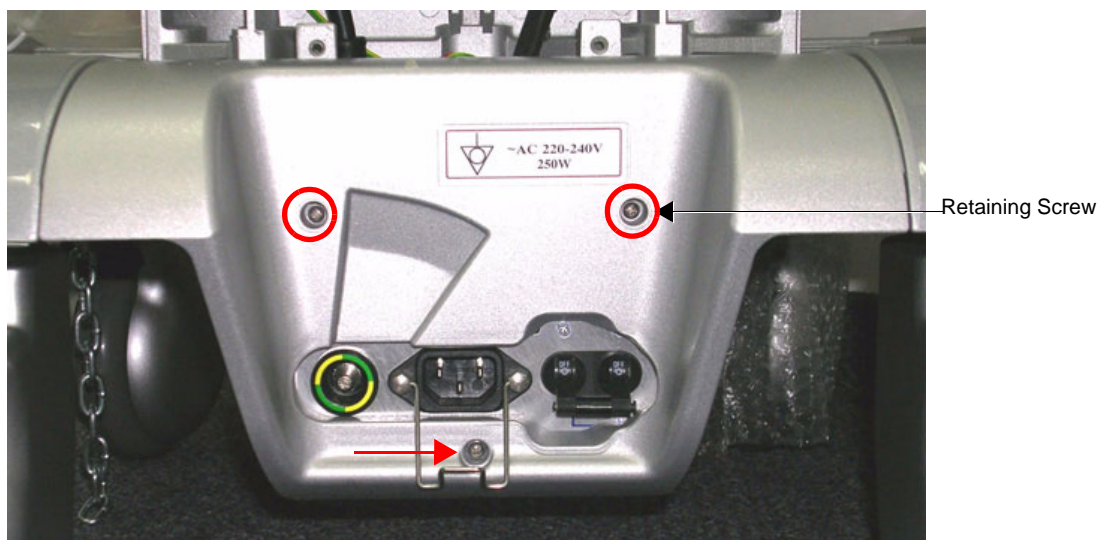

Figure 8-83 AC Distribution Assembly and Mounting Bracket
- 4) Remove the three retaining screws of the AC Assembly Cover and remove the cover - Figure 8-83 below.